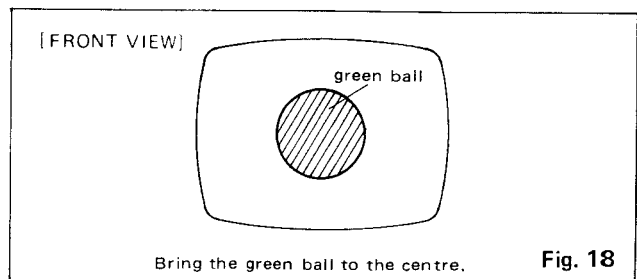

Fig. 18
4. Turn the green cut-off control to maximum and the red and blue cut-off controls to minimum. Then adjust the screen control so that the green ball can be seen best. (Fig. 18)